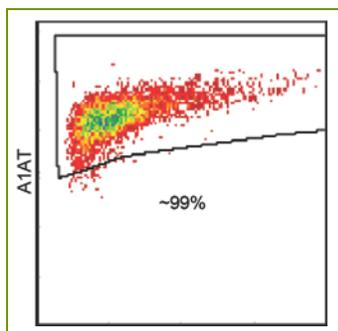

Figure 1: Flow Cytometry Provides a Rapid and Easy Method for Assessing Marker Expression in iCell Hepatocytes
2. Use the live/dead signal (far red) and alpha-1 antitrypsin signal (green) to evaluate alpha-1 antitrypsin expression (Figure 1).